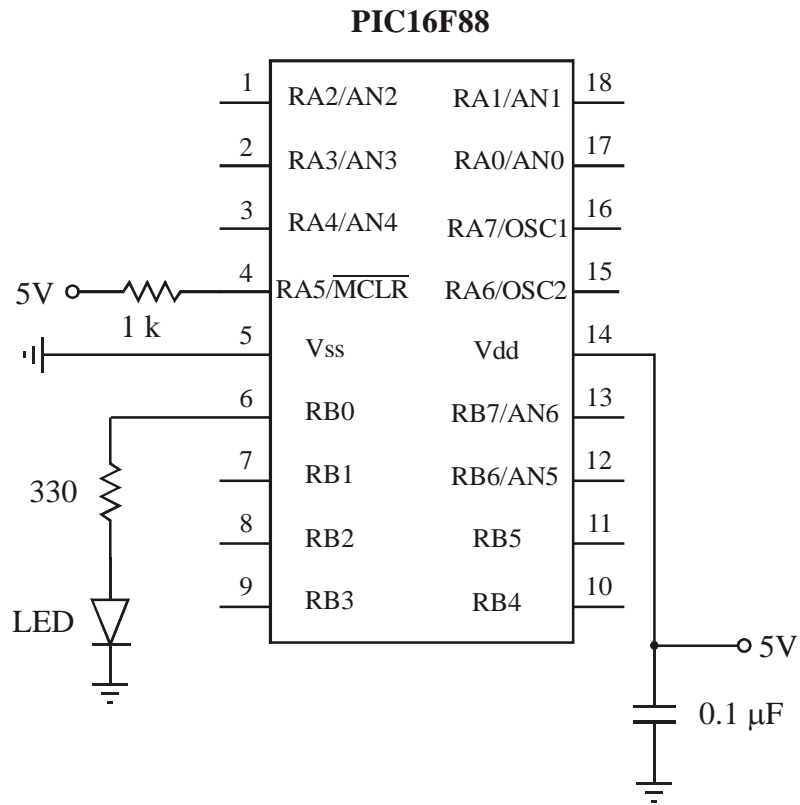

Figure 9.2 Circuit to be modified to run onint.bas
- (4) Repeat steps (1) through (2) for the "onint.bas" program listed in Section 9.5. **Be sure to create a new project and follow the entire procedure.** Before constructing the circuit for onint.bas, identify the additional components required in Figure 9.2. Indicate the necessary changes in the figure and check with your Teaching Assistant to verify that your changes are appropriate. The program should turn on an LED attached to PORTB.7. An interrupt on PORTB.0 should cause the LED to turn off for half a second, and then turn back on again. This should be signaled by a single pole, single throw (SPST) switch or a normally open (NO) button. You must make sure to wire the switch or button such that the ON state applies 5 Vdc to the pin, and the OFF state grounds the pin. The input should not be allowed to "float" in the OFF state (i.e., it must be grounded through a 1k $\Omega$  resistor). When you are sure you have all components wired properly, apply power to the circuit and test it to determine if it is working properly.